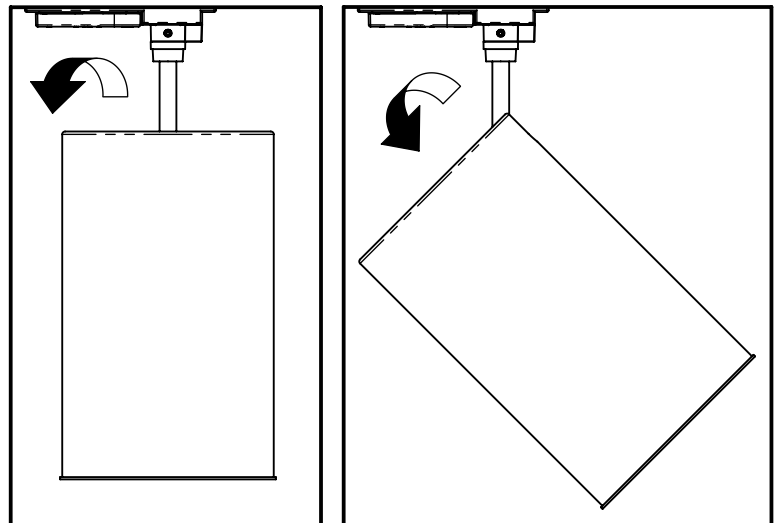

FIG 13. ANGLE FIXTURE UP OR DOWN TO SET VERTICAL FOCUS
- *FOR VERTICAL AIMING*, HOLD THE LAMP HOUSING AND ANGLE IT UP AND DOWN UNTIL YOU ACHIEVE YOUR DESIRED ORIENTATION (FIG. 13)